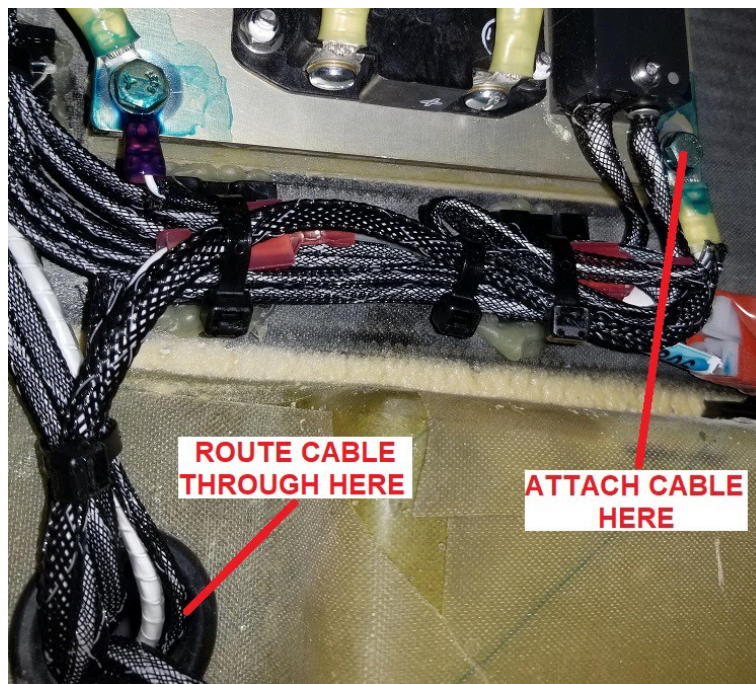

Figure 2. Suppressor plate seen looking forward into the nacelle through the aft access panel.
4. Install the end of the bonding cable with item 2 to the location shown in Figure 2, i.e. the smaller ring terminal attaches to the suppressor plate. Use Nycote 7-11 blue.
5. Route the bonding cable through the grommet shown in Figure 2.